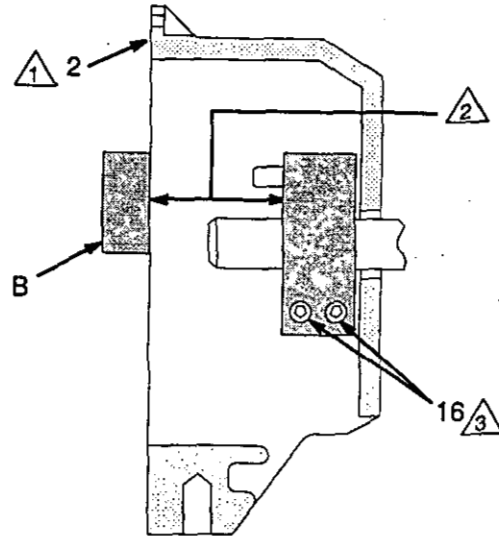

Fig. 20
3. Press the **clamp (3)** onto the engine shaft (A). Maintain the 1.99 inch \pm 0.01 (50.55 mm) dimension shown in Fig. 20.